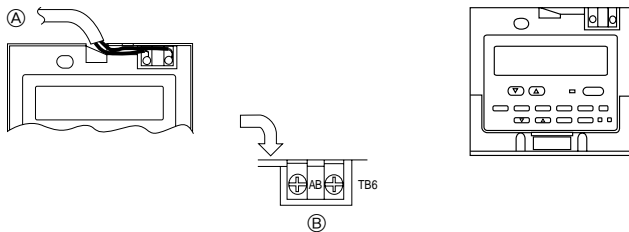

Fig. 7-8
2) Connecting procedures (Fig. 7-8)
- ① Connect the remote controller cord to the terminal block.